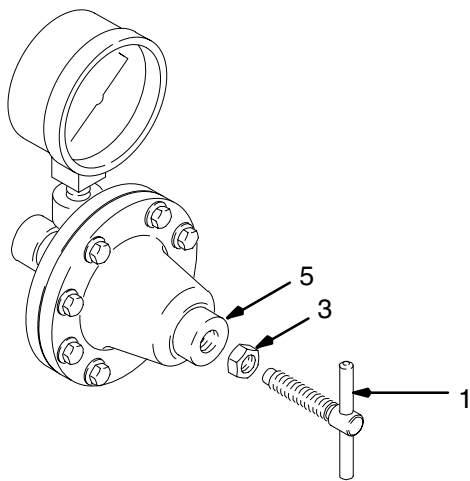

Fig. 3 \_\_\_\_\_ 02729
1. Close the regulator: turn the adjustment handle (1) counterclockwise to relieve the spring tension. See Fig. 3.
3. Turn the adjustment handle (1) *clockwise* to increase fluid pressure. See Fig. 3. Adjust for the desired spray pattern. *Before reducing the regulator pressure, partially relieve pressure in the gun hose to ensure the correct gauge reading. Tighten the jam nut (3) to the regulator cap (5) to ensure the proper pressure setting.*
- b. Turn the adjustment handle (1) clockwise to open the regulator valve to the desired flushing outlet pressure and flow. See Fig. 3.
3. Turn the adjustment handle (1) counterclockwise until the spring force is relieved (Fig. 3).